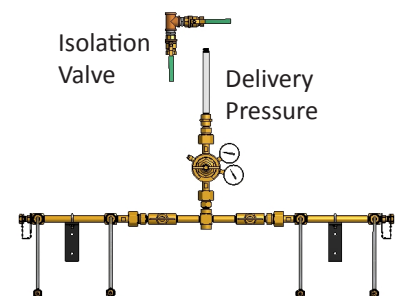

Figure 7
1. A ½" NPT male union is supplied with the control and is located at the upper most part of the manifold control. Connect this union to the pipeline system. Sweat joints must be silver soldered. Use Bag-1 specification silver solder (**do not use soft solder**). Heat the entire joint evenly. Apply enough heat favoring heavy sections, so that solder flows freely around the joint leaving no pin holes. The piping shall be purged during the brazing process. (Purging will prevent scale from forming on the inside of the Piping during the brazing process). The union provided permits removal of the manifold control for service (Figure 7).
4. Installation of a shut-off valve to isolate the pipeline during service to the manifold is recommended (Figure 7).